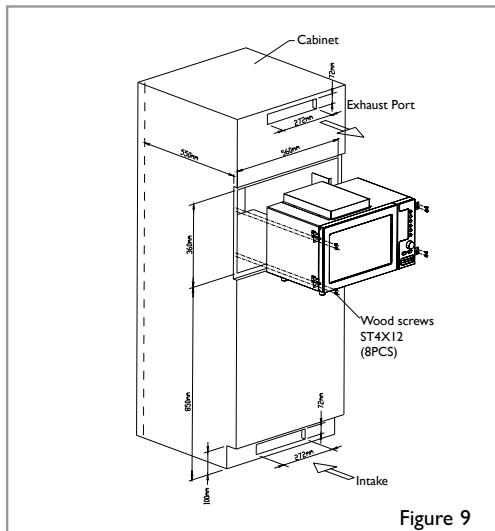

Figure 9
c) Place the microwave into the cabinet cavity and secure the microwave in place with wood screws. As shown in figure 9.